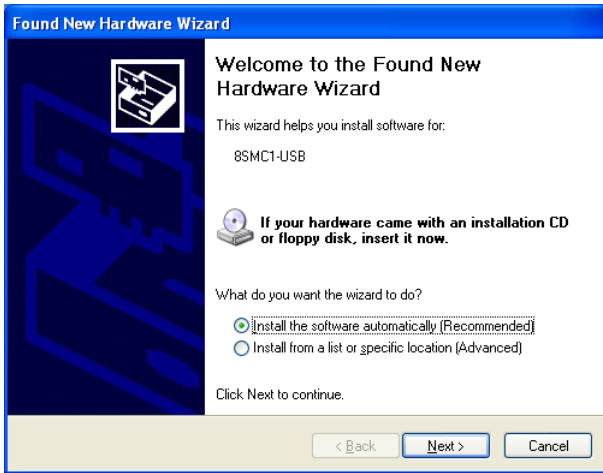

Figure 61. Hardware wizard 2nd screen
- Then choose (see Figure 61) Install the software automatically (Recommended) and press the "Next>" button.
- Then disconnect USB cable of your 8SMC1-USBh controller and connect it again. When Hardware Wizard found new hardware and will offer you to install a new driver choose "Install the software automatically" (see Figure 61) then from the list of found drivers choose 8SMC1-USB MicroSMC driver (see Figure 69).
Although MicroSMC driver supports up to 32 8SMC1-USBh devices and NI VISA driver supports up to 30 8SMC1-USBh devices simultaneously, WindowsXP Hardware wizard in “Install the software automatically (Recommended)” mode (see Figure 61) may work improper if more than 6 8SMC1-USBh devices are connected. In case of that improper work Hardware wizard has been looking for USB driver several minutes and find nothing, USB driver will not be installed and 8SMC1-USBh controller will mark with “?” in Device Manager device list. If it is happened make a right click on this 8SMC1-USBh controller and choose “Update driver...”.
At screen like Figure 61 choose "Install from a list or specific location (Advanced)". At the next screen choose "Don't search. I will choose the driver to install" (see Figure 79). Then choose appropriate driver from list (see Figure 69).
Use this way always when you are installing a lot of 8SMC1-USBh devices: choose at screen like Figure 61 "Install from a list or specific location (Advanced)" and "Don't search. I will choose the driver to install" then.